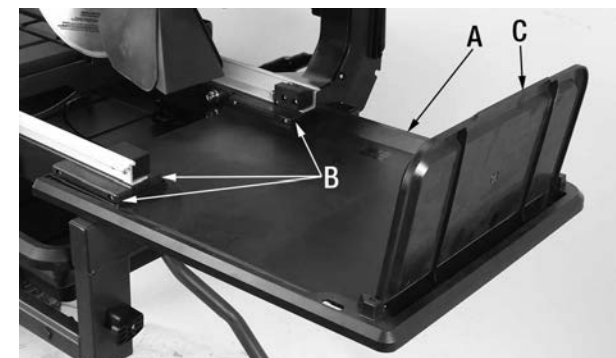

FIGURE 18
- 1) Install the rear tray extension (A) Fig.18 at the rear of the Tile saw. Slide the rear tray extension into the grooves (B) in the machine frame. Once pushed all the way, the tray extension flap (C) can then pivoted upwards into the vertical position as shown.